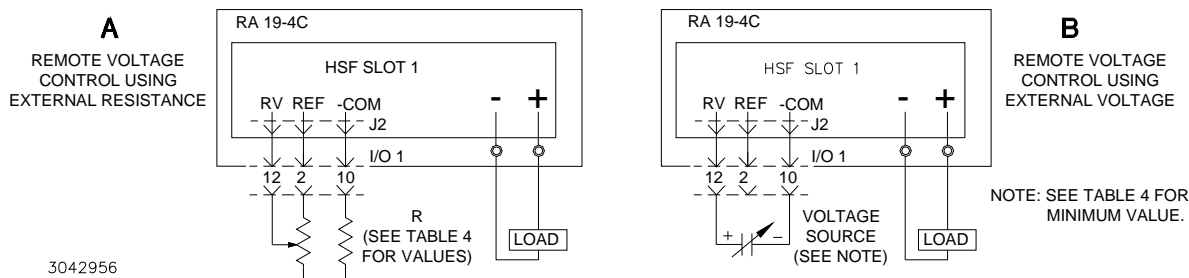

FIGURE 7. CONNECTIONS FOR REMOTE VOLTAGE CONTROL
For remote voltage control, set positions 1, 2 and 7 as shown in Figure 6B. This removes control from the front panel V_{adj} control and allows the output voltage to be adjusted by either an external trimmer pot (resistance) or by an external variable voltage source connected across the rack adapter I/O connector pin 12 (RV, Remote Voltage) and pin 10 (-COM, Common) as shown in Figure 7. At the rack adapter I/O connector use a shielded wire 6.6 feet (2M) maximum in length,
RESISTANCE: Connect the external trimmer as shown in Figure 7A. Suggested value for the trimmer control is 5K ohms. Referring to Figure 7 (A), R = 7.5K Ohms (M suffix: R = 5.6K Ohms) provides an output voltage adjustment range of from 70 to 130%. for the 24V model. R = 560 Ohms provides an output voltage adjustment range of from 17 to 150%. for the 36V model. R = 10K Ohms (M suffix: R = 7.5K Ohms) provides an output voltage adjustment range of from 70 to 115% for the 48V model.